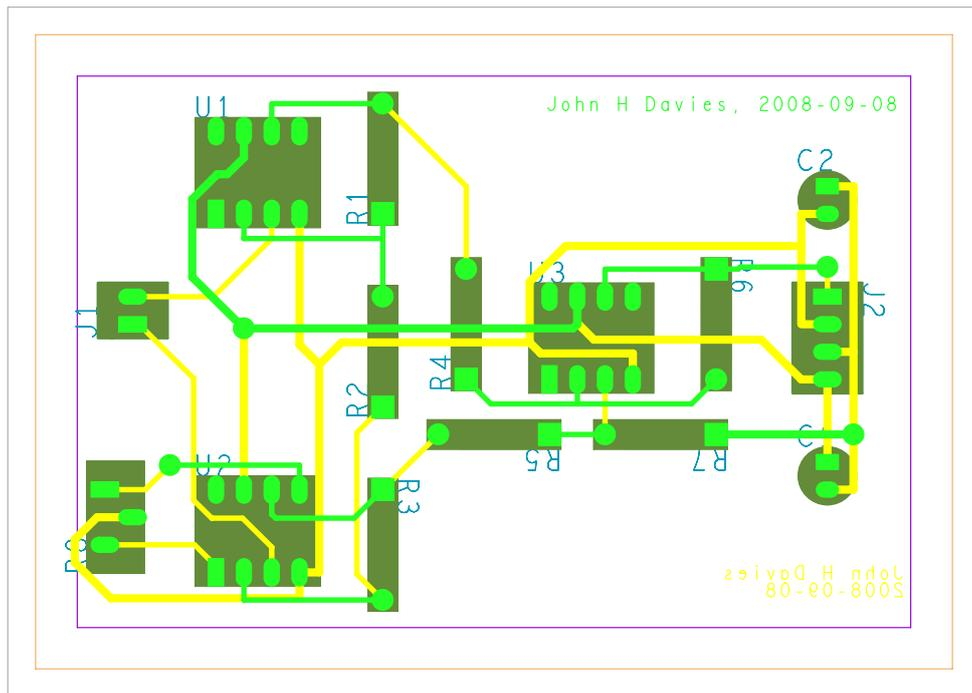

Figure 21. The double-sided layout after moving the badly-placed via away from the trimmer.
7. Print the finished board. I've shown mine in figure 21 on the following page. Ideally you should produce the masks for both layers, following the instructions in section 6.8 on page 34. My masks before I moved the via are shown in figure 20 on the preceding page.